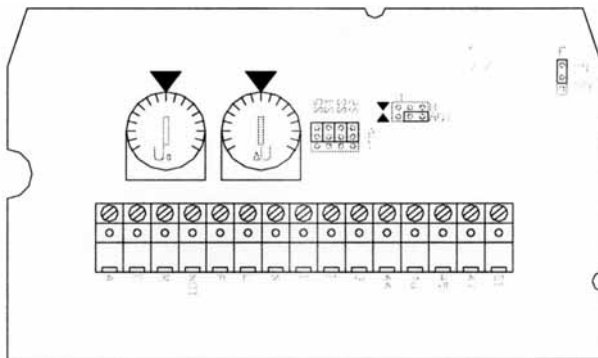

Figure 2
3. Jumper S1 on ECA circuit board should be in "Aut" position. See diagram in figure 2.
4. Potentiometer (labeled U in figure 2) adjusts amount of voltage required for full 270° rotation of the ECA output shaft. This pot should be in position 8 (8 volts differential).
5. Potentiometer (labeled U_0 in Figure 2) adjusts amount of voltage required to start motor rotating from zero point. This pot should be in position 2 (2 volts).
7. Set jumper S4 to position 2 (shown in figure 2) for 0-10 VDC output signal corresponding to the 0 to 10 position of the pump stroke control which is available at terminals 44 and 47 and can be used for stroke control position indication.
2. Move jumper S1 to H position. (Figure 2)